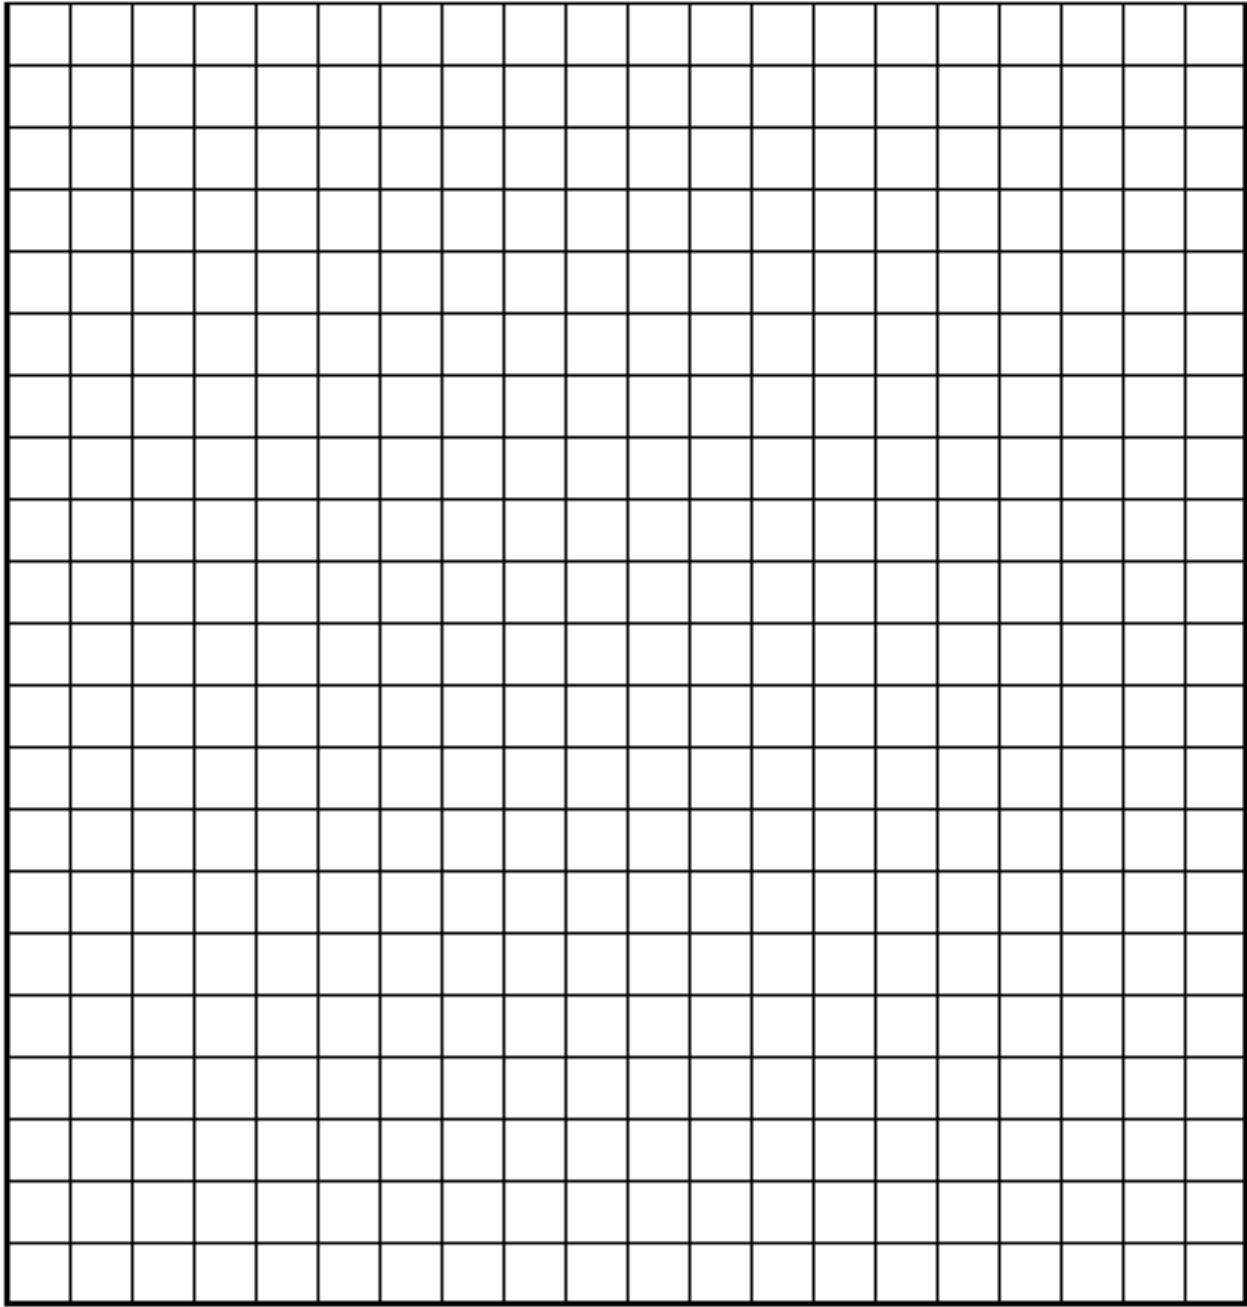

Figure 3. Angle of Incidence versus Added Mass.
5. On the provided graph (Figure 3), label the horizontal axis as "mass (m)" and the vertical axis as "Angle of Incidence θ_i (degrees)." Plot the angle of incidence as a function of added mass.